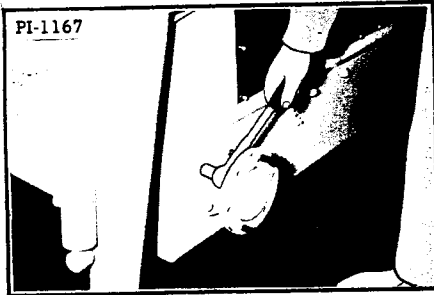

Fig. 78 Bolting Hub to Frame
4. Bolt the outside hub to the loader frame (Figure 78).